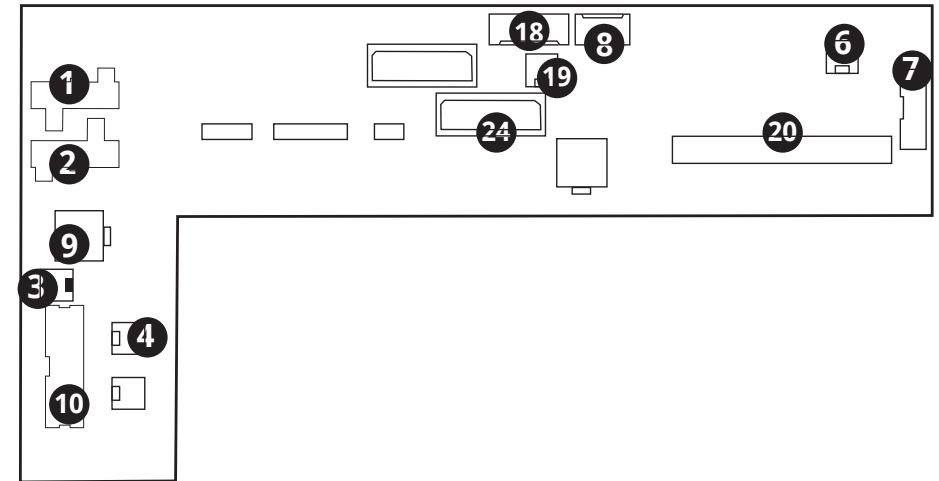

Figure 77: Board layout of the PC module interface circuit board
Key to Figure 77
- 3 Disconnect connectors 1, 2, 3, 9, and 10 from the PC interface board (see Figure 77).
- 4 Loosen the four (4) 2-millimeter hex socket button head screws in the device chassis that the PC and touchscreen module is suspended from.
- 2 Disconnect connectors 1, 2, 3, 9, and 10 from the PC interface board (see Figure 77).
- 3 Unscrew the four (4) 2-millimeter hex socket button head screws that secure the module's top casing panel, and remove the casing panel. Save the serrated washers.
- 5 Unscrew the four (4) 2-millimeter hex socket button head screws that secure the motherboard to the module bottom plate.
- 2 Disconnect all the cables and connectors from the PC interface board. (see Figure 77).
- 3 Unscrew the ten (10) 2-millimeter hex socket button head screws that secure the interface board to the module bottom plate.